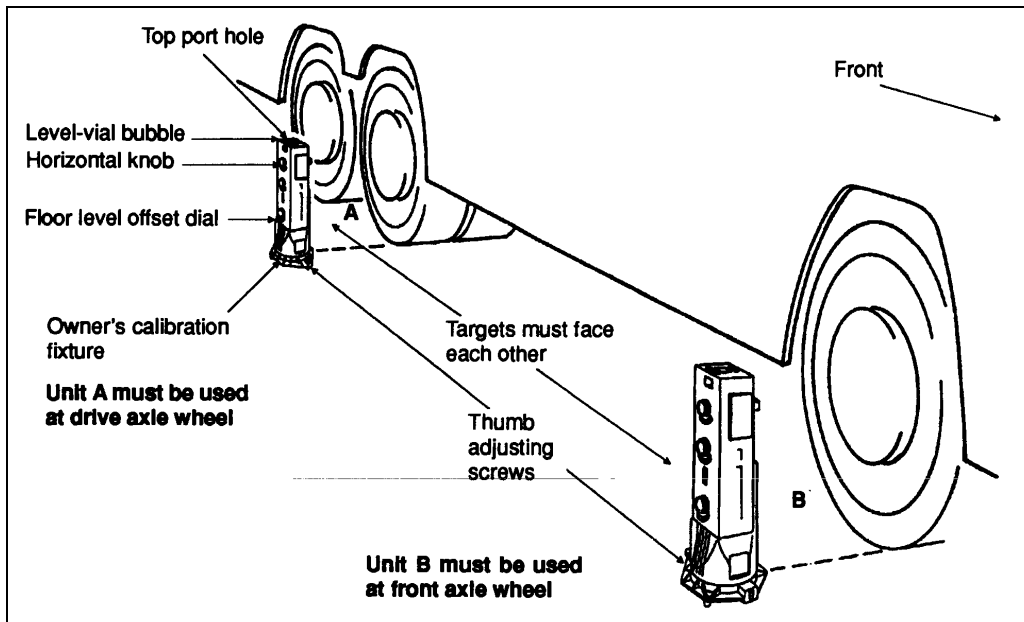

FIGURE 41: HEADLIGHT ALIGNER
2. Fix one (1) calibration fixture to each aligner.
3. Install aligner in center of each wheel on one side of vehicle. Unit B must be installed beside the front axle wheel with its viewing port facing rearward, and unit A beside the drive axle wheel with its viewing port facing forward. See figure 41 for more details.